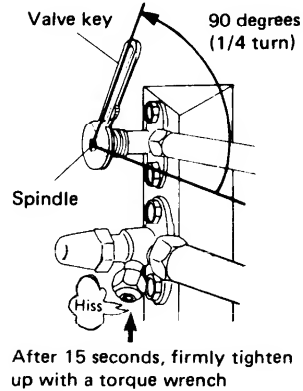

Fig. 35
- Shut the spindle of the service valve on the narrow pipe. Fig. 35